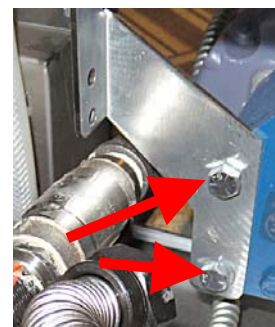

Figure 55
54. Use a 1/2" wrench to remove the two (2) bolts securing the filter pump bracket to the filter pump (see Figure 55). Discard the bracket.